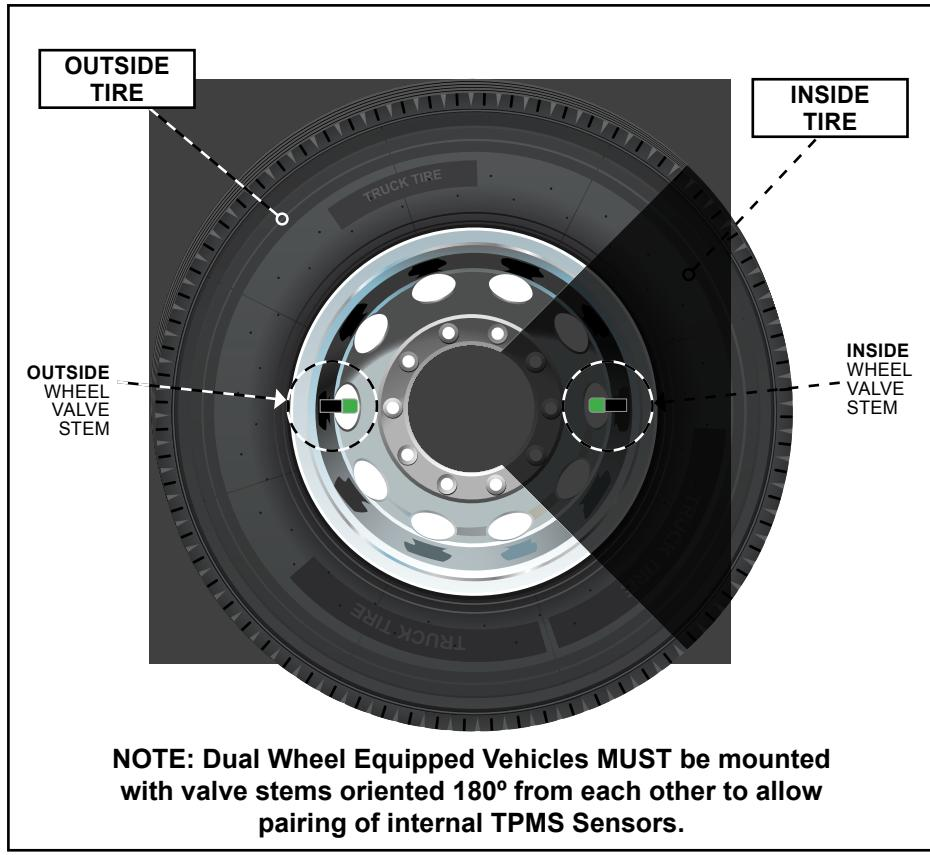

Figure 1: 180° valve stem orientation for dual wheel vehicles.
1. Please review the following instructions to ensure proper orientation of internal TPMS Sensors using the 180° valve stem orientation method. *See Figure 1.*